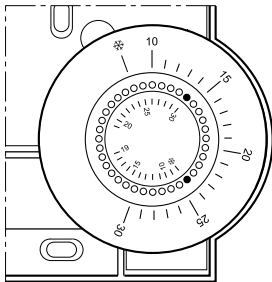

Fig. 15: Limiting the adjustment range
- Place the two small pins into the holes of the adjustment dial in order to limit the adjustment range (see Fig. 15). Orientate yourself on the basis of the inner scale: In Fig. 15, the pins are inserted so that the adjustment dial can only be adjusted in the range of 19 °C to frost protection * (lower limit) and 19 °C to 30 °C (higher limit) around the value 19 °C.